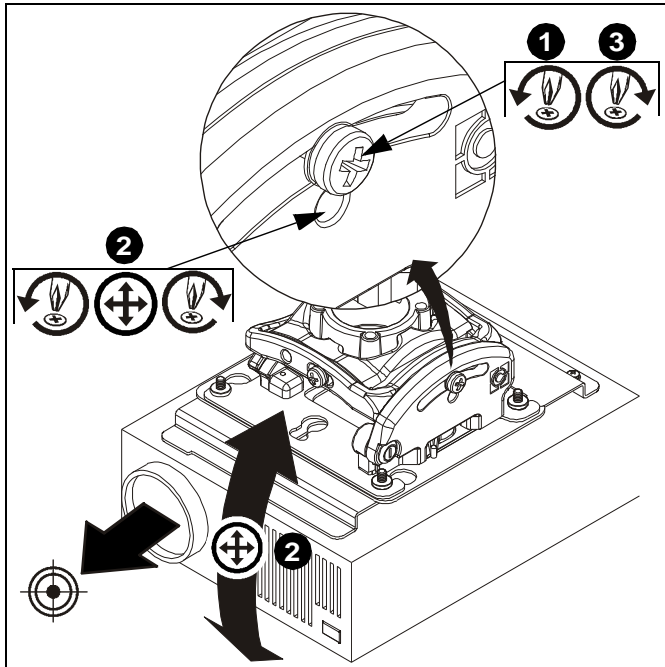

Figure 10
1. Loosen PITCH adjustment locking screw using a #2 Phillips screwdriver. (See Figure 10)